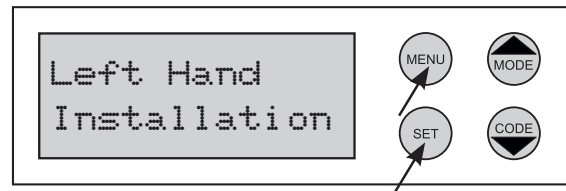

Fig. 20
- 2 To change to `Left Hand Installation`, press **MENU** then press **SET** to confirm (Fig. 20).